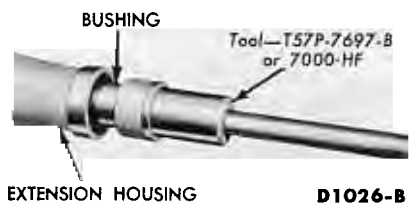

FIG. 25—Installing Extension Housing Bushing
3. When installing a new bushing use the special tool shown in Fig. 25.